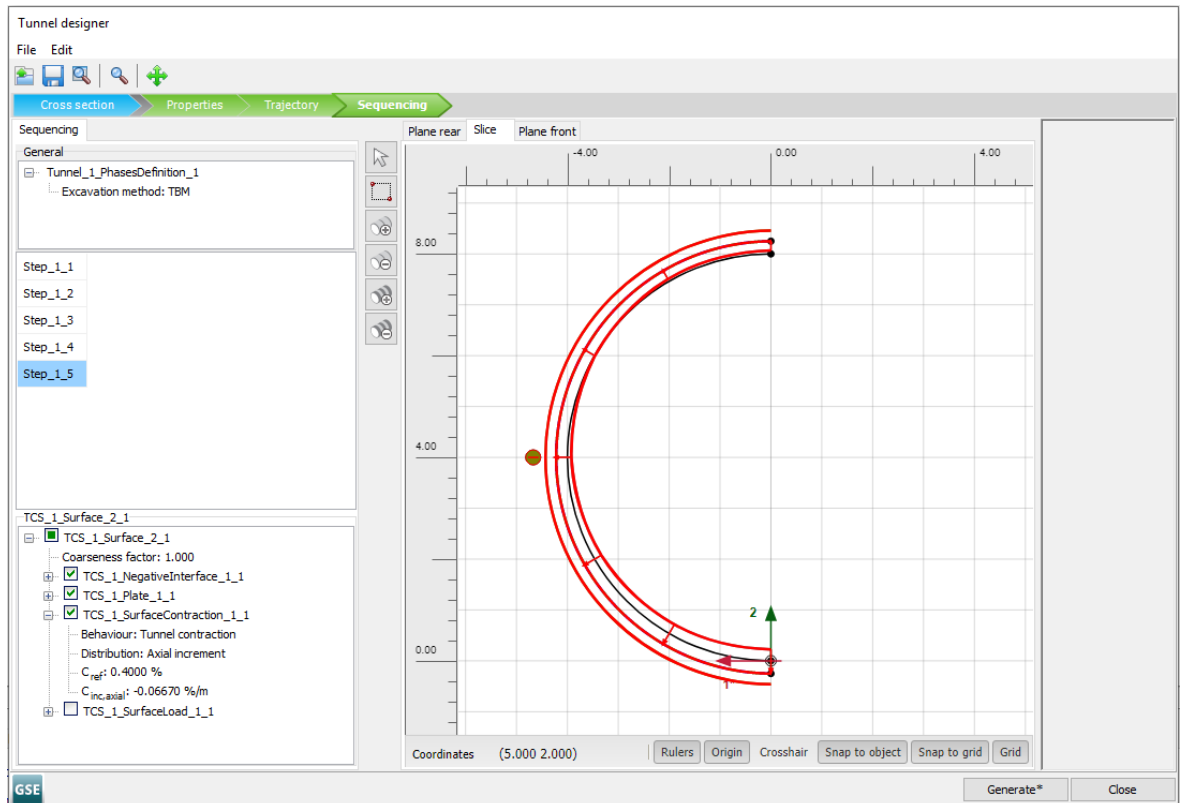

Figure 5-17: Slice tab Tunnel designer <Step_1_3 to Step_1_5>Definition of surface contraction
- Click on the **Add Step** button three times to add three new steps. These steps are necessary to define the remaining cone part of the TBM shield (Figure 5-17 \(p. 99\)).
Step_1_5: $C_{ref} = 0.4\%$, see Figure 5-17 \(p. 99\)